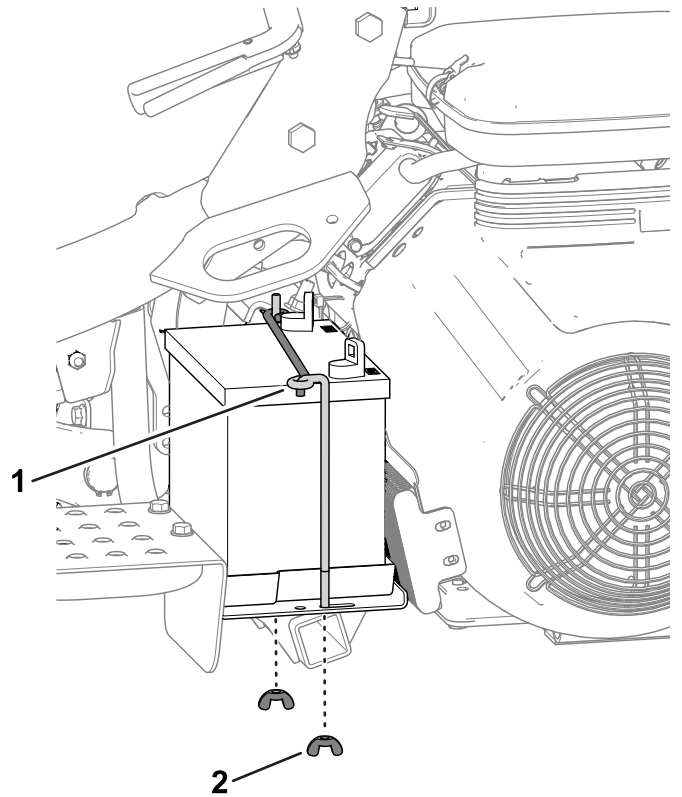

Figure 39
5. Place the battery on the battery tray and secure it with the previously removed rods and fasteners (Figure 39).
2. Remove the wing nuts and rods that secure the battery to the platform (Figure 39) and lift out the battery.